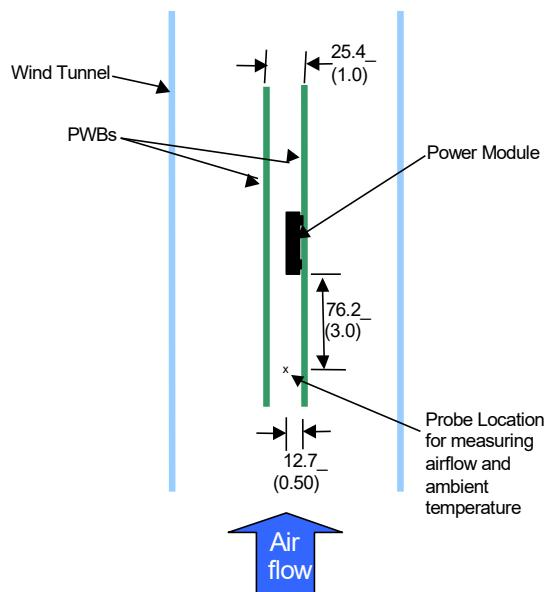

Figure 28. Thermal Test Setup.
Power modules operate in a variety of thermal environments; however, sufficient cooling should always be provided to help ensure reliable operation. Considerations include ambient temperature, airflow, module power dissipation, and the need for increased reliability. A reduction in the operating temperature of the module will result in an increase in reliability. The thermal data presented here is based on physical measurements taken in a wind tunnel. The test set-up is shown in Figure 28. The preferred airflow direction for cooling the module and the thermal reference points, Tref used in the specifications are shown in Figure 29. For reliable operation the temperatures at these points should not exceed 120°C (IC200) and 115°C (C202). The output power of the module should not exceed the rated power of the module ($V_{o,\text{set}} \times I_{o,\text{max}}$). Please refer to the Application Note "Thermal Characterization Process for Open-Frame Board-Mounted Power Modules" for a detailed discussion of thermal aspects including maximum device temperatures. Increased airflow over the module enhances the heat transfer via convection. The thermal derating of figures 2, 8, 14 and 20 show the maximum output current that can be delivered by each module in the indicated orientation without exceeding the maximum Tref temperature versus local ambient temperature (TA) for several air flow conditions. The thermal derating curves were generated using a 12 layer evaluation board with 3oz copper in inner layers and 2 oz in outer layers